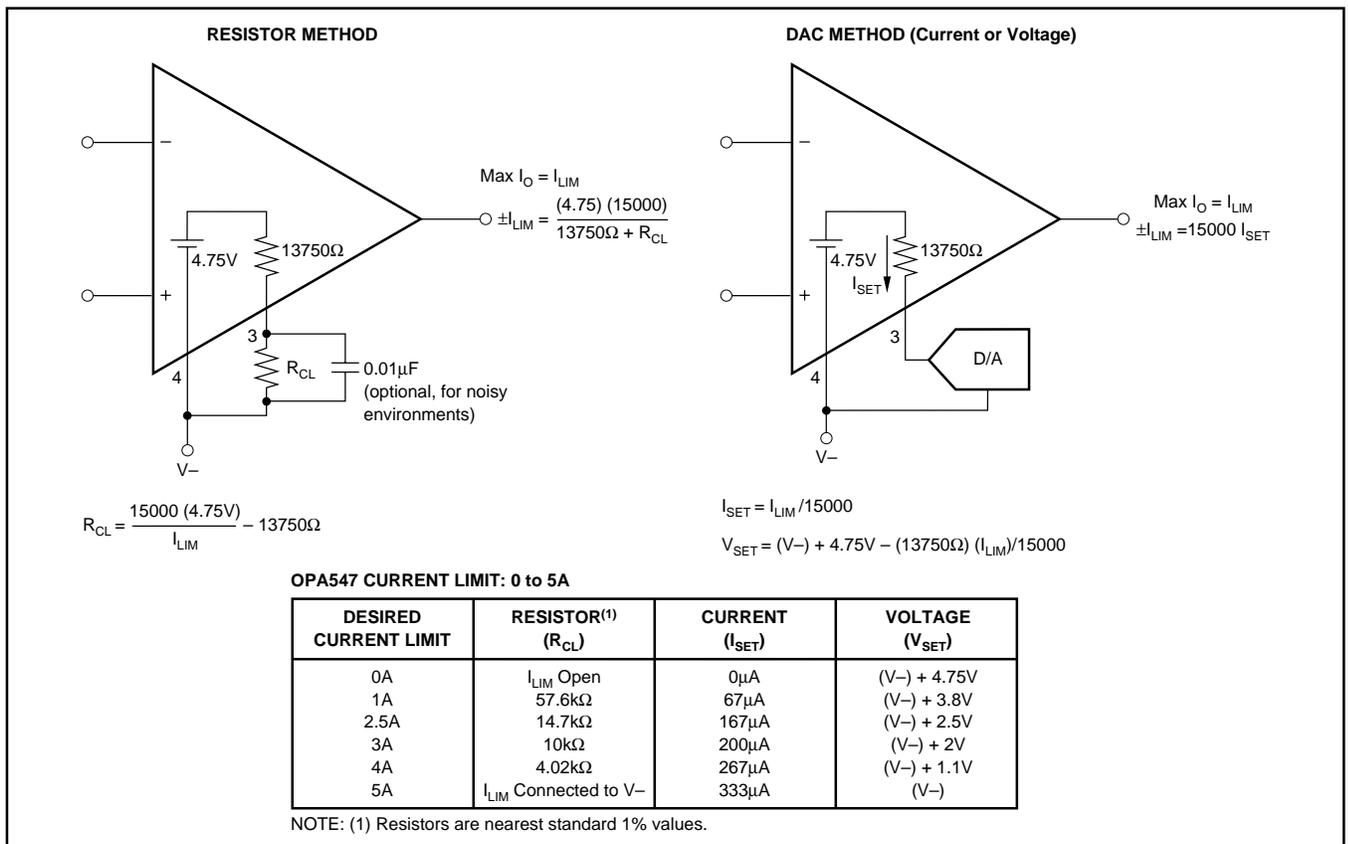

FIGURE 3. Adjustable Current Limit.
See Figure 3 for a simplified schematic of the internal circuitry used to set the current limit. Leaving the I_{LIM} pin open programs the output current to zero, while connecting I_{LIM} directly to V– programs the maximum output current limit, typically 5A.
NOTES: (1) Works well for $G < 10$. Input offset causes output current to flow between amplifiers with $G > 10$. Gains (resistor ratios) of the two amplifiers should be carefully matched to ensure equal current sharing. (2) As configured (I_{LIM} connected to V^-) output current limit is set to 10A (peak). Each amplifier is limited to 5A (peak). Other current limit values may be obtained, see Figure 3, "Adjustable Current Limit".